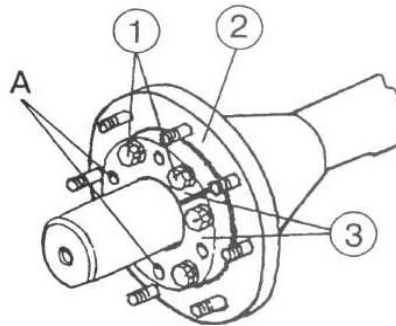

Figure 4.122
- 1) mount hub 2 (Figure 4.122) on half-axle;